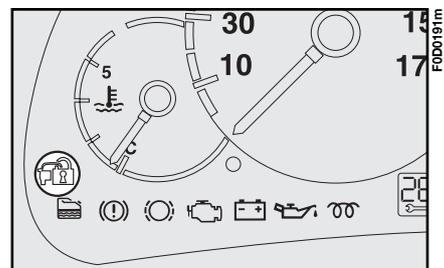

fig. 5
1) If the code is recognised the  **fig. 5** warning light on the instrument panel will flash briefly: this means that the protection system has recognised the key code and disabled the engine immobiliser. Turn the key to **AVV**, to start.